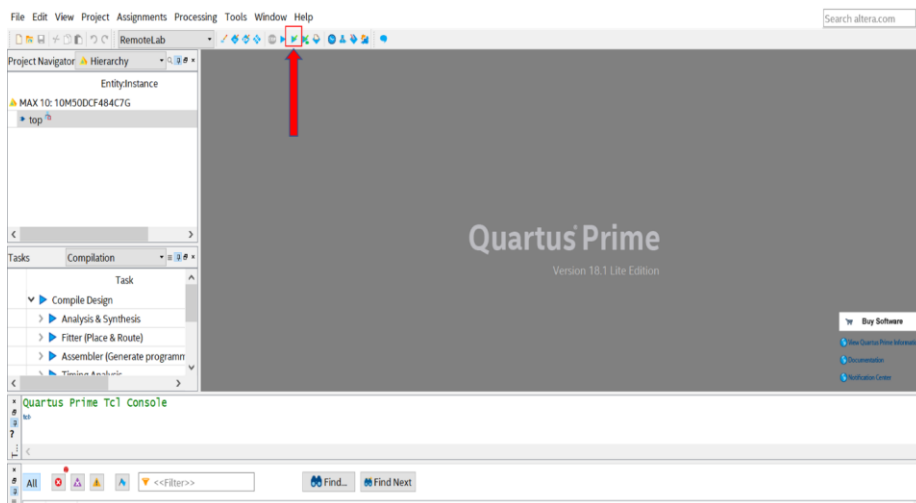

Figure 5: Analysis and Elaboration check mark
- ❑ To run Analysis and Elaboration, click the **Play** button with a green check mark, shown in Figure 5 below.